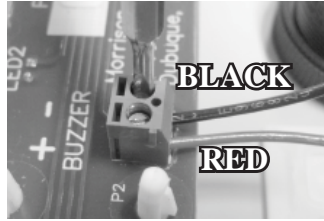

Figure 17 - Connecting the BUZZER to the INDICATOR BOARD
- i. Connect the Buzzer to the Indicator Board(see Figure 17)